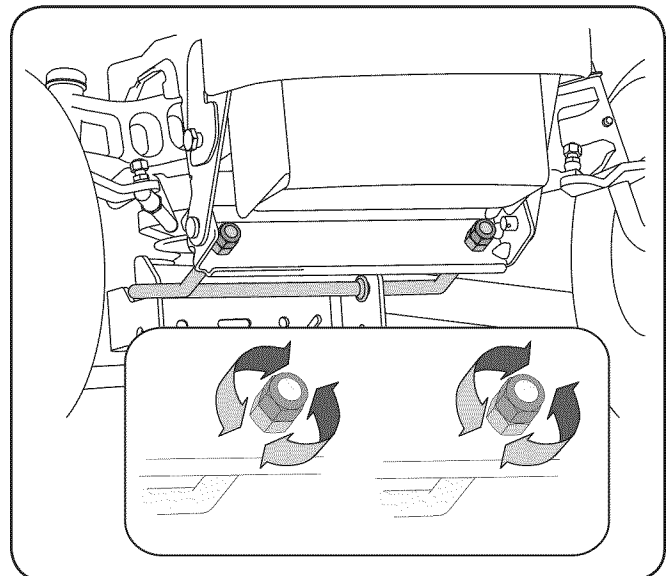

Figure 6-5
1. Loosen (thread outward) the hex lock nut on the end of each deck hanger rod. See Fig. 6-5.
- 2b. To *lower* the front of the deck, loosen (thread outward) each hex nut, away from the front hanger bracket. See Fig. 6-5.